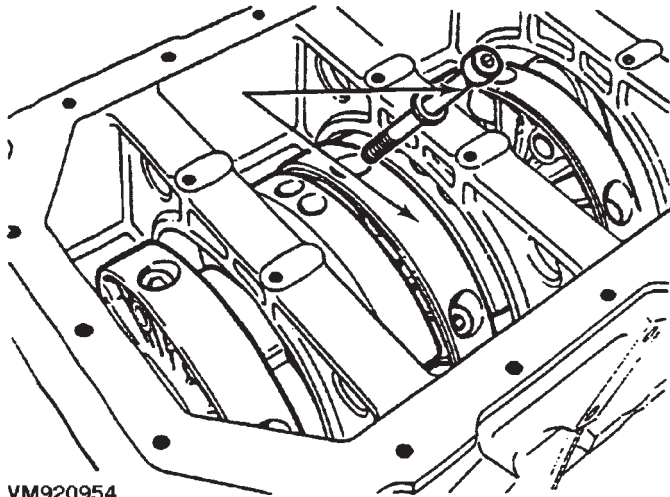

Fig. 55 Carrier Bolts
(18) Remove main bearing oil feed and carrier locators from block.
(19) Remove flywheel and adaptor plate from engine block.
(20) Remove thrust bearings from rear main bearing carrier.
(21) Slide crankshaft and bearing carriers rearward to rear of block. If you encounter difficulty in removing the complete assembly as previously described, slide the assembly rearward sufficiently to gain access to the main bearing carrier bolts. Mark the carriers for assembly and remove the bolts, two for each carrier (Fig. 55).